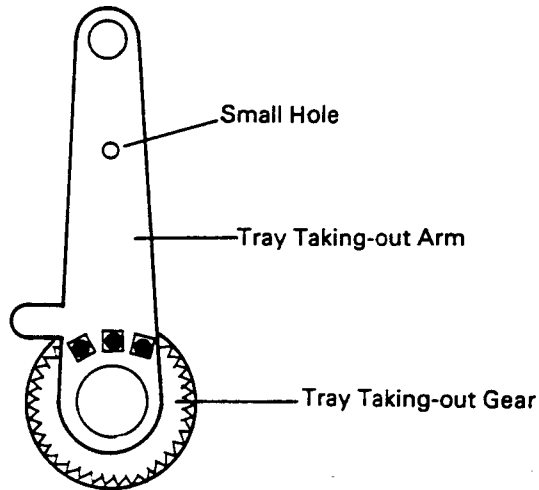

Fig. 39
They should be assembled in such a manner that : when the end of the gear arm is moved to the center of hole ④ of the stage, the small hole (shown in the figure 39) may be visible from the hole ⑤ of the stage.